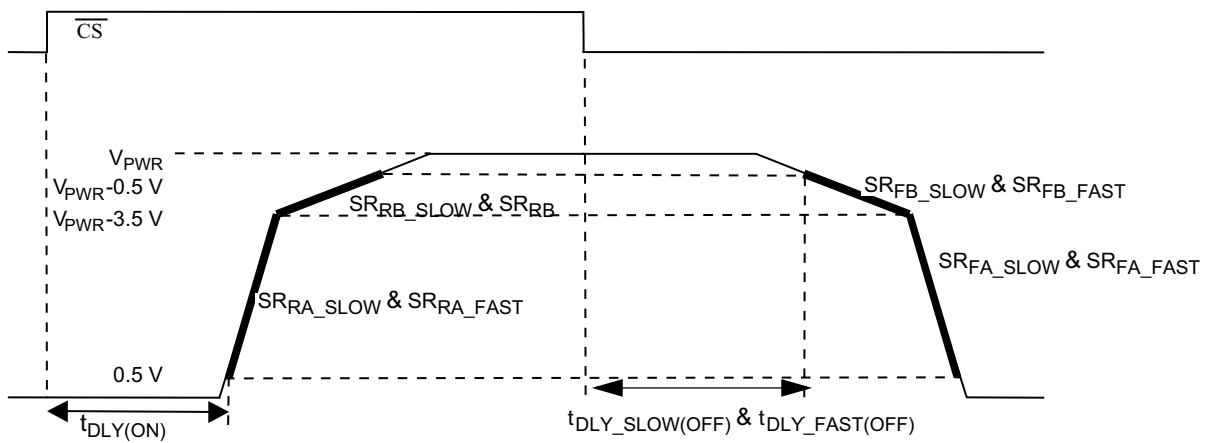

Figure 4. Output Slew Rate and Time Delays
- Rise and Fall Slew Rates A measured across a 5.0Ω resistive load at high side output = $0.5V$ to $V_{PWR} - 3.5V$ (see Figure 4, page 12). These parameters are guaranteed by process monitoring.
- Rise and Fall Slew Rates B measured across a 5.0Ω resistive load at high side output = $0.5V$ to $V_{PWR} - 3.5V$ (see Figure 4). These parameters are guaranteed by process monitoring.